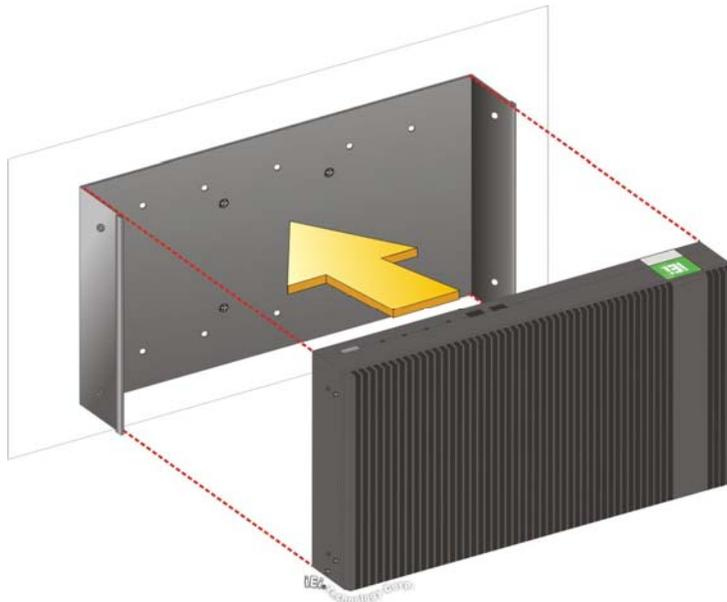

Figure 3-9: Place the System onto the Mounting Bracket
- Step 4:** Place the IDS-H61 onto the mounting bracket and align the retention screw holes on both sides of the system with the screw holes on the mounting bracket (Figure 3-9).